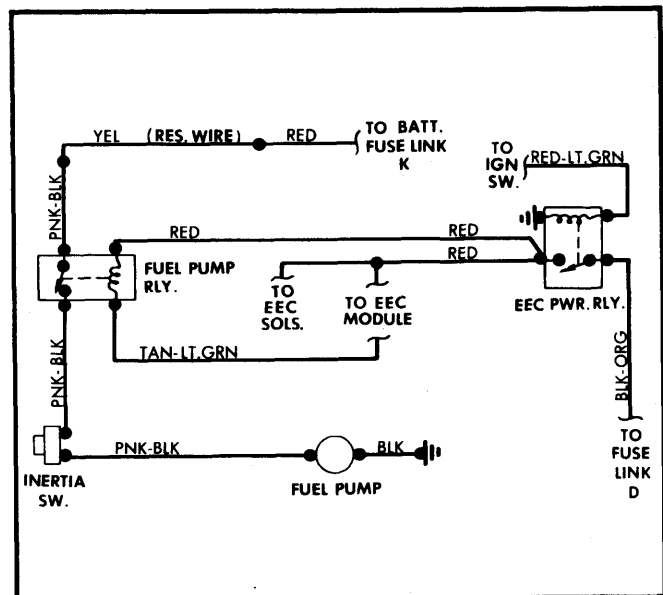

Fig. 5 Fuel Pump Wiring Diagram
2) Voltage should rise to battery voltage, then return to zero volts after about 1 second. Momentarily turn key to "START" position. Voltage should rise to about 8 volts while cranking. If voltage is not as specified, check electrical system. See Fig. 5.